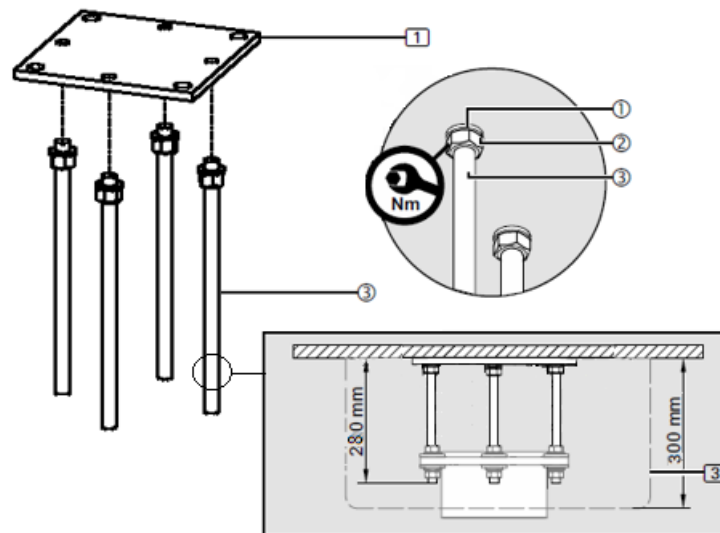

Fig. 16 Installation of interface plate without false ceiling for CEILING FIXED ARES
- The ceiling trim (3) is later mounted flush with the ceiling and covers the counter plate (4).
- For the ceiling trim (3), which has a height of 300 mm, the 6/12 M16 x 350 mm threaded bolts (3) must be cut to 280 mm. See Fig. 16.
- Lightly deburr the M16 x 350 mm threaded bolts (3) to ensure maximum thread engagement in the interface plate (1).
- Thread 1 M16 hex nut (2) each onto the M16 threaded bolts (3) and then fit 1 spring washer (1) each.